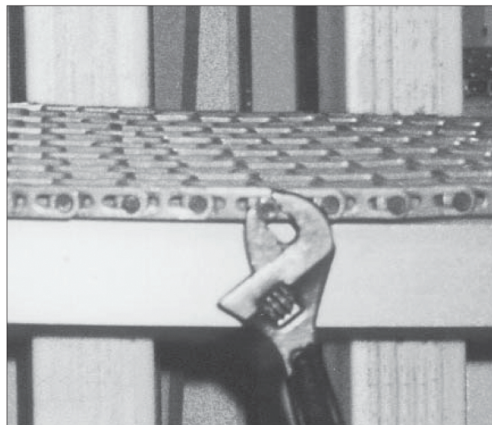

Figure 2
- c. Insert threaded connector rod and attach nut. Insure that the nut does not protrude farther than adjacent rod button heads (*Figure 2*).